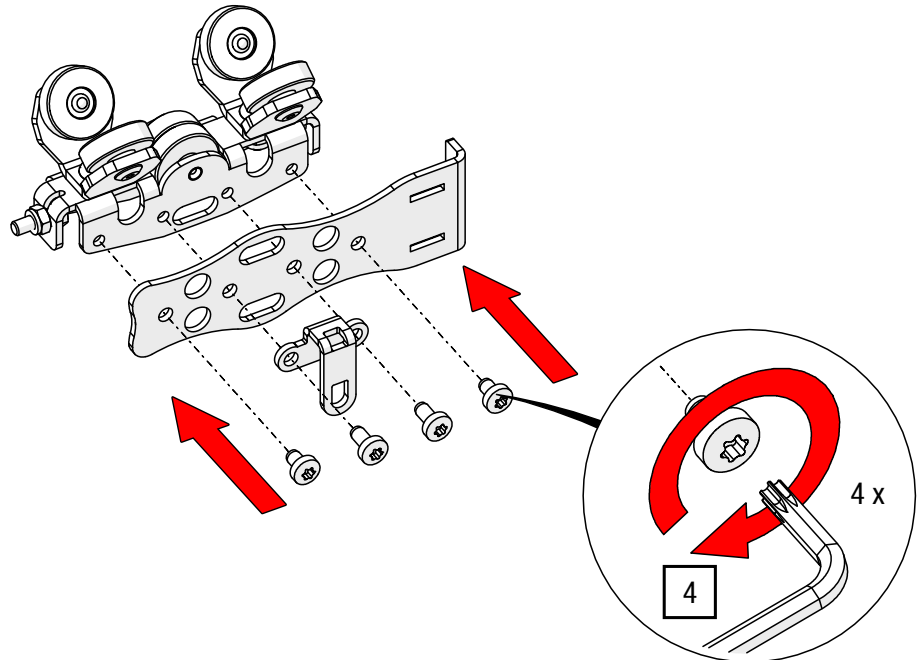

Fig. 57: OFFICE master runner – Mount side plate, eyelet plate, and magnet bracket
4. Position one side plate with a lateral eyelet plate on the master runner and screw it tight using a TORX®-key T20 until it is flush with the master runner (see Fig. 57).